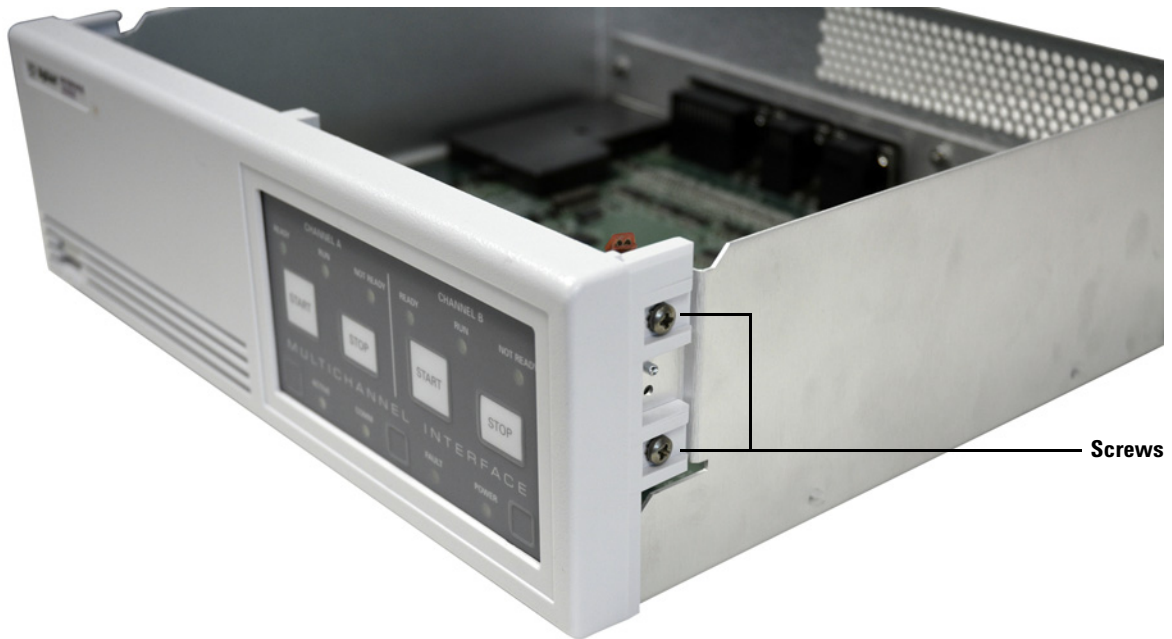

Figure 13 Remove screws to remove the front panel (right side shown)
- 4 Remove the four screws holding the front panel to the unit (Figure 13).
- 7 Replace the four screws, two on each side (see Figure 13 above).